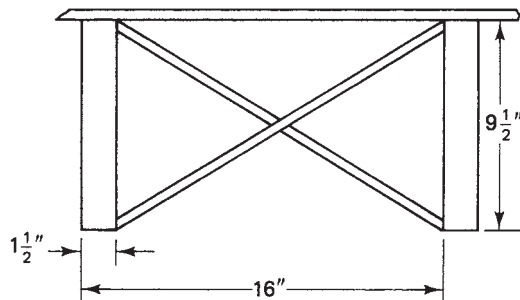

Figure 14–5
- A. Calculate the length of material needed to cover the inside diagonal between 2×10 s (actual width $9\frac{1}{2}$ in.) that have been placed 16 in. o.c. (see Figure 14–5).
- B. Determine the amount of 1 × 3 strapping needed to bridge the floor joists from the plan shown in Figure 14–2.